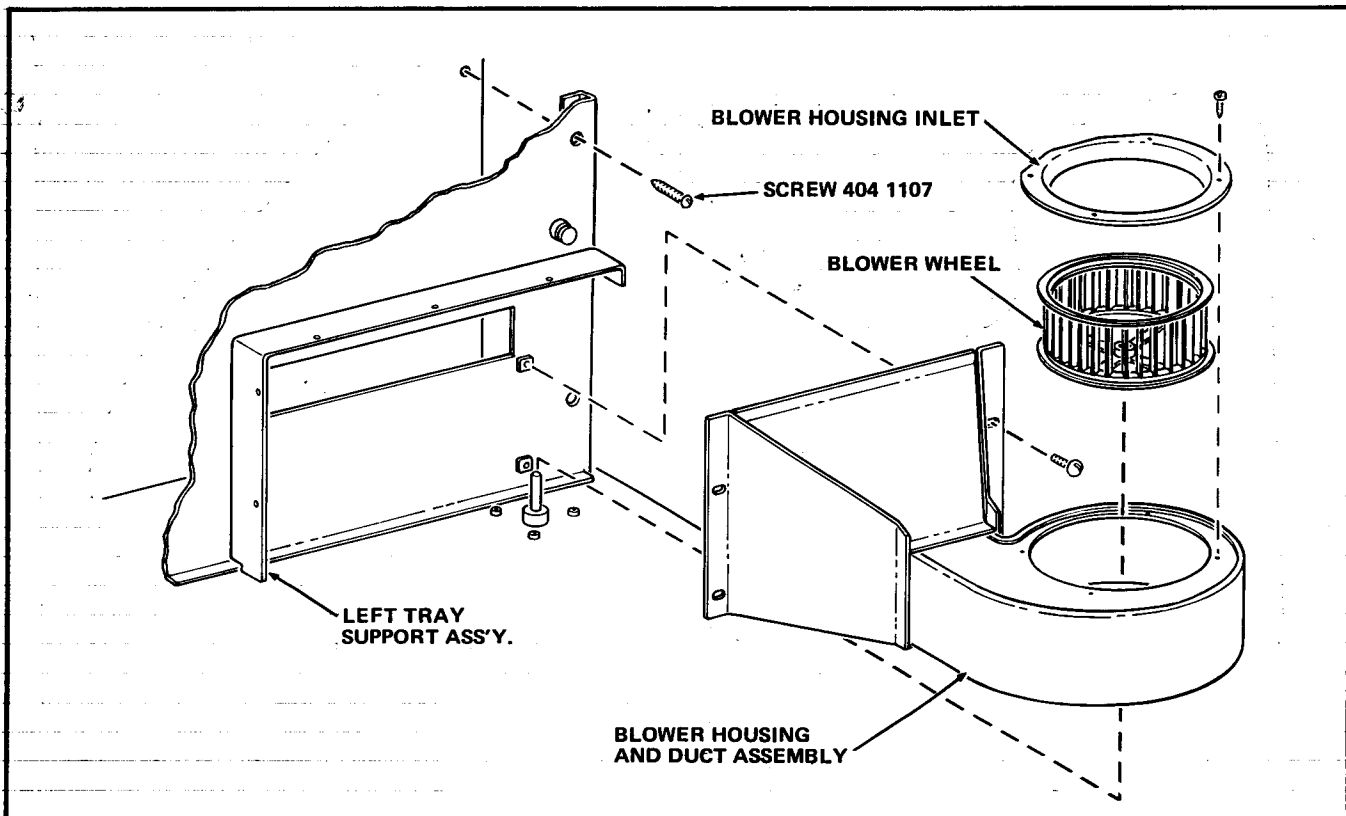

FIGURE 3
13. Remove four Screws attaching the Blower Duct Assembly to the Left Tray Support Assembly. See Figure 3.
14. Remove four Screws and the Blower Housing Inlet from the Blower Housing. See Figure 3.
15. Using a 1/8" Allen Head Wrench, loosen the attaching Set Screw and remove the Blower Wheel from the Blower Motor Shaft. See Figure 3.
16. Remove three Screws and the Blower Housing and Duct Assembly from the Merchandiser. See Figure 3.
17. Remove the eleven Screws attaching the Left Tray Support Assembly to the Cabinet Wall. See Figure 3.
4. Install the Left Tray Support Assembly in the Merchandiser, using the eleven Screws removed in Step A-17. Four of these Screws, Part Number 404-1107, are included in the Kit. See Figure 3.
5. Install three Screws and the Blower Housing and Duct Assembly, removed in Step A-16. See Figure 3.
6. Using a 1/8" Allen Head Wrench, install the Blower Wheel, removed in Step A-15. See Figure 3.
7. Install four Screws and the Blower Housing Inlet, removed in Step A-14. See Figure 3.
8. Install the four Screws, removed in Step A-13, attaching the Blower Duct Assembly to the Left Tray Support Assembly. See Figure 3.